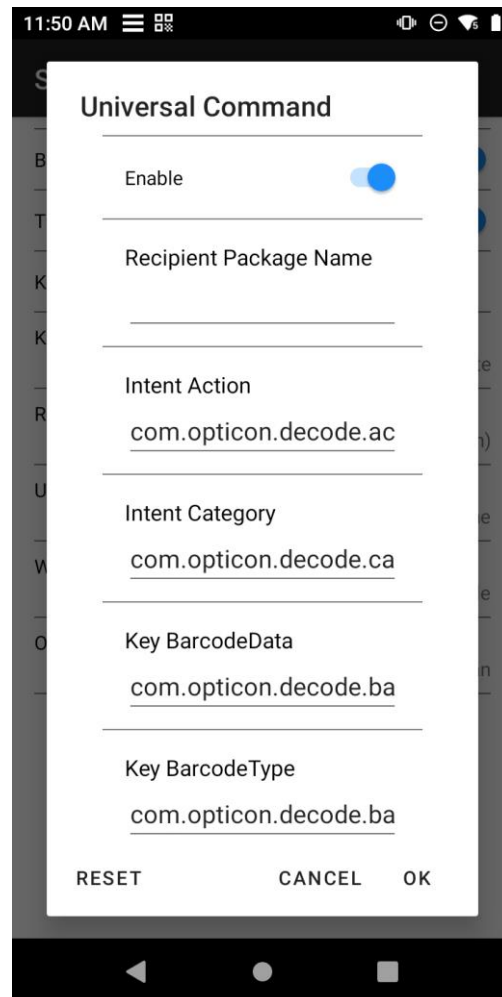

Figure 12-6: The *Wedge* settings where the *Wedge* is enabled and the other settings are set to the default.
3. In the *ScannerService* settings, enable the *Wedge* option as shown in Figure 12-6. This allows the scanned data to be forwarded to OptiConnect as keyboard input.
4. Make sure all other wedge settings are set to their default values as in Figure 12-6.